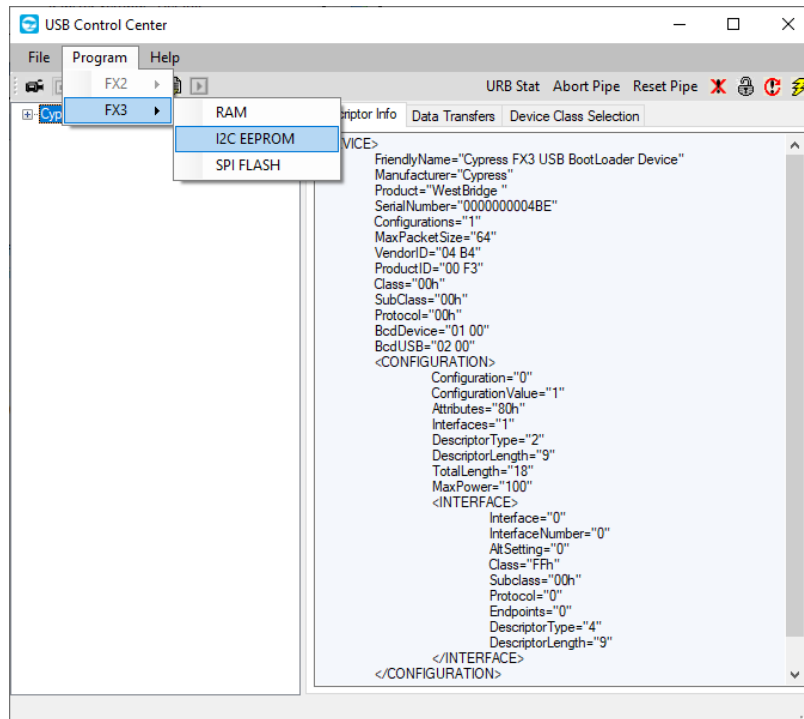

Figure 4.2. Selecting FX3 I²C EEPROM in USB Control Centre
5. Press the **Push** button **SW5** to reset the FX3 chip. Figure 4.2 shows the boot loader device screen.